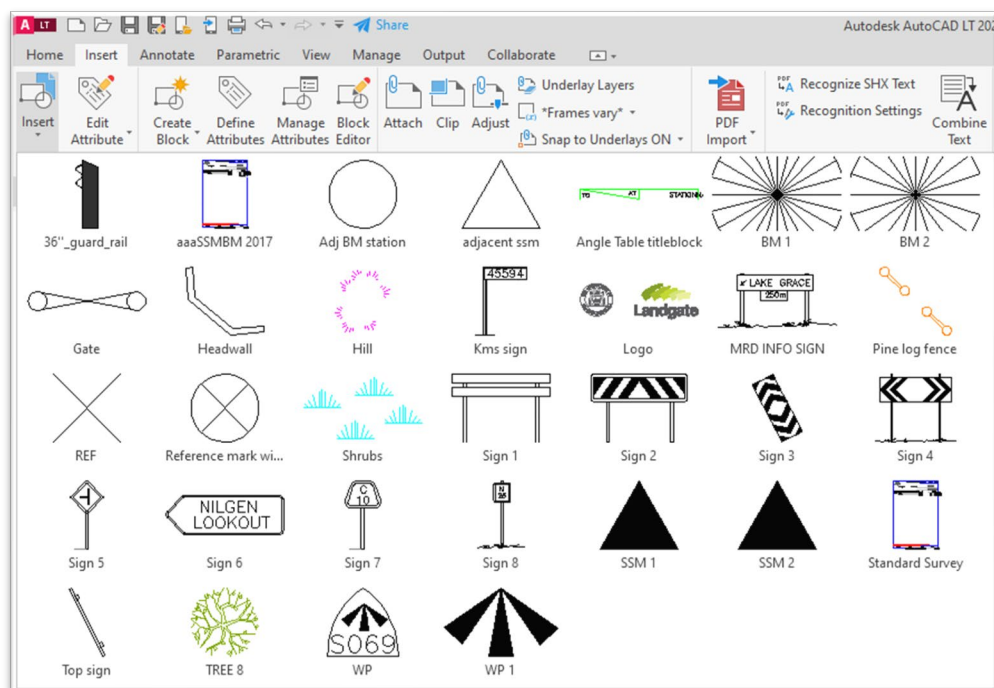

Figure 4 – Pre-defined Blocks or Symbols in the template
5.4.1 There are several pre-defined block elements (or Symbols) within the template – such as SSM, BM, RM, etc., that can easily be placed in the drawing by clicking the <Insert> button or typing the <Insert Block> in the command line (see **Figure 4**).